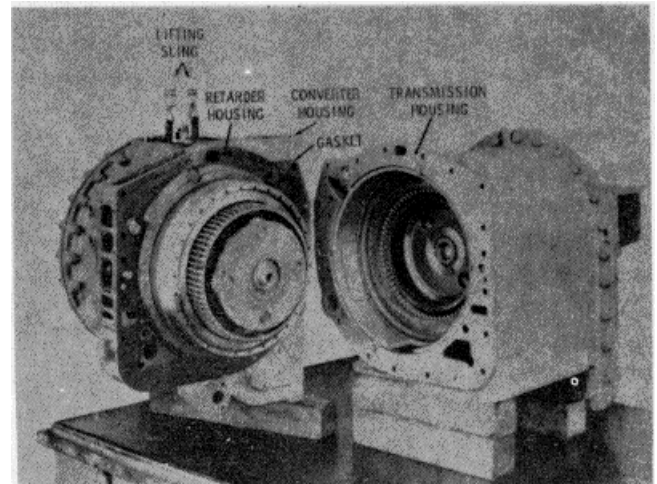

Figure 15-44. Removing Torque Converter, Converter Housing and Retarder Housing
1. Attach a two-strand lifting sling to the top of the torque converter housing, adjusting the sling to support the housing. Remove the seventeen remaining bolts and lockwashers which fasten the transmission main housing to the retarder housing. Remove, as a unit, the torque converter and housing assembly, the retarder and housing assembly and attached parts from the transmission main housing (Figure 15-44). Remove and discard the gasket.